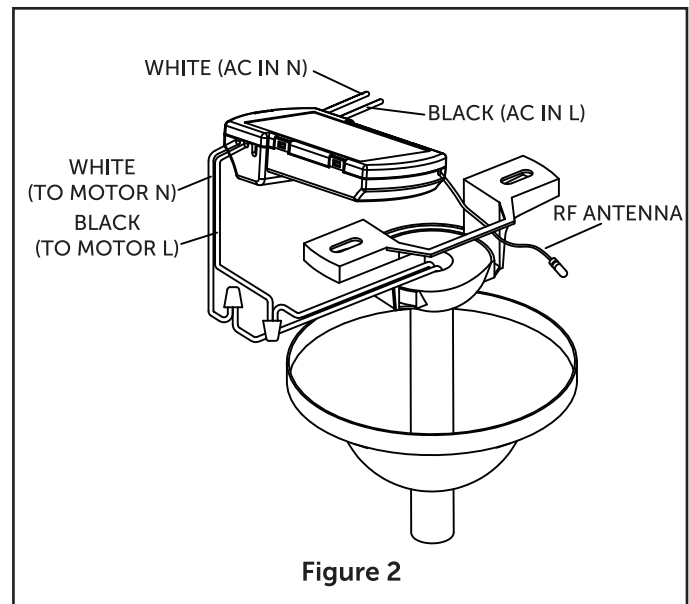

Figure 2
- Position all connected wires and receiver antenna to allow installation of ceiling canopy. (Figure 2)